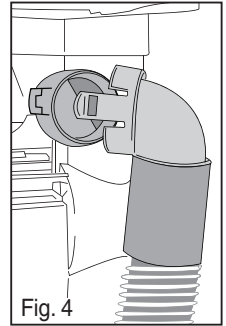

Fig. 4
- **Hose connector** – Pull out on left side tab to remove connector. Remove debris. Align tab at right and snap connector back into place (Fig. 4).